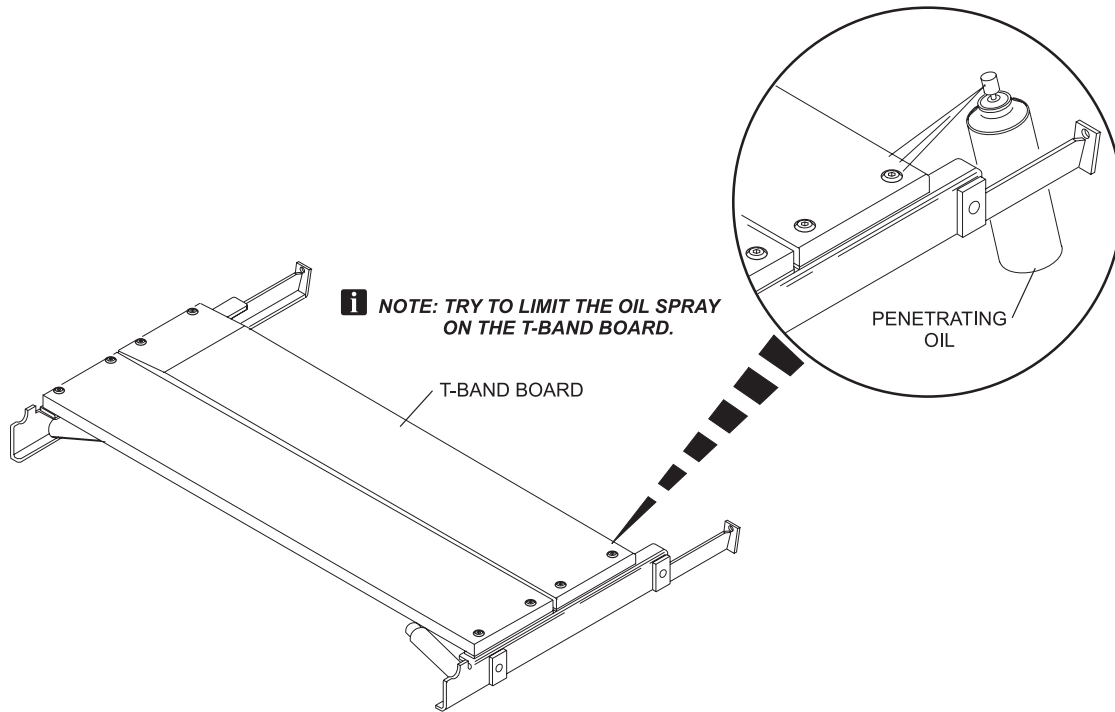

Figure 1
1. Spray penetrating oil around the head of the T-band board bolt. Refer to *Figure 1*.